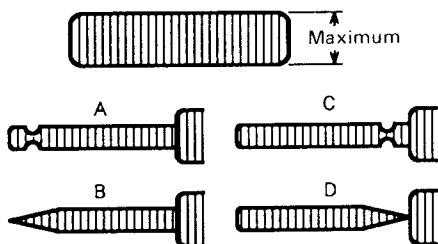
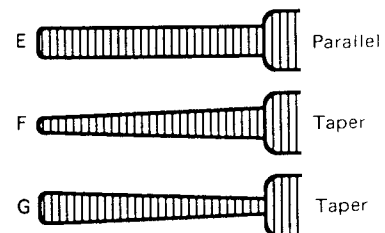

Fig. 4-20
Fig. 4-21
- 4) If the FM waveform is similar to (A) or (B) in Fig. 4-20, adjust the height of the supply guide roller until it becomes like (E), (F) or (G) in Fig. 4-21. If the FM waveform fluctuates, adjust to the minimum point of fluctuation.
- 5) If the FM waveform is similar to (C) or (D) in Fig. 4-20 adjust the height of the take up guide roller until it becomes like (E), (F) or (G) in Fig. 4-21. If the waveform fluctuates, adjust to the minimum point of fluctuation.